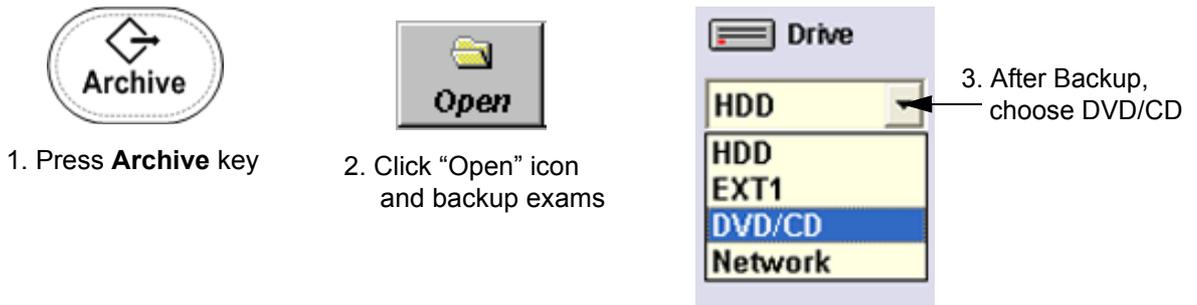

Figure 7-28 To backup exams to DVD/CD+(R)W
- 2.) Enter "Sonoview" by pressing the **ARCHIVE** key on the control panel; see Figure 7-28.